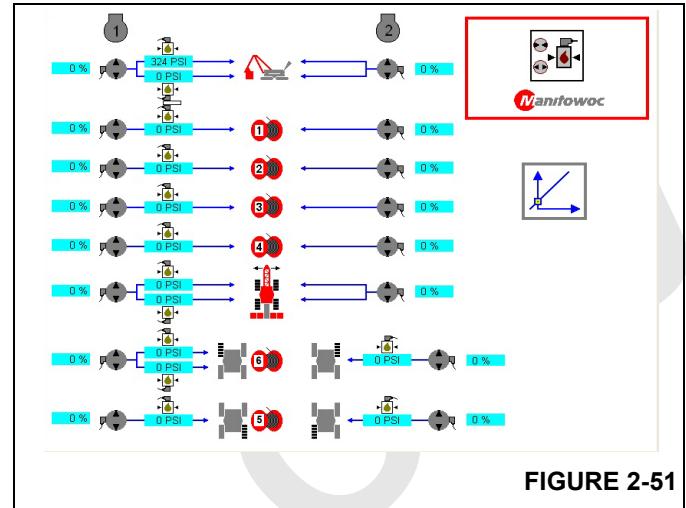

FIGURE 2-51
4. Next, press  to make the Pressure Test and Calibration Test screen appear (Figure 2-51).